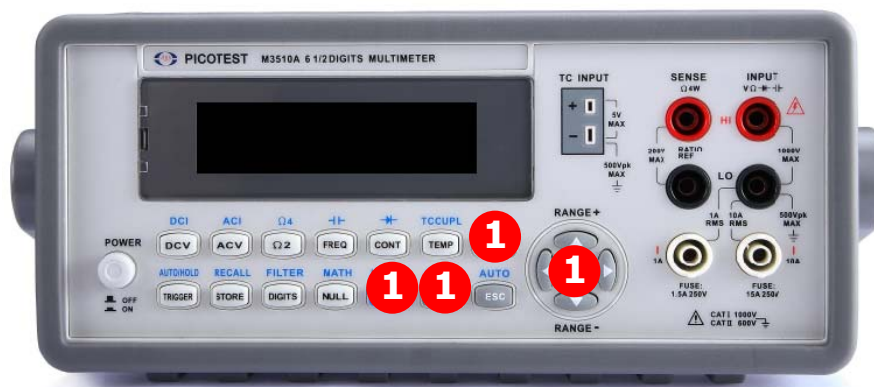

Figure 5-2
1. Do the procedure SHIFT + CONFIG > INTERFACE > ENTER > USB/GPIB > ENTER to set the interface as shown in **Figure 5-2**.